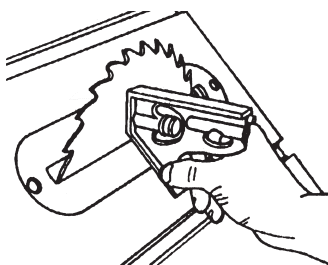

Figure 39
6. Remove the Blade from the Combination Square and place the Square against the Saw Blade and the Worktable, as shown in Figure 39. Make sure the Combination Square doesn't rest on the Table Insert.